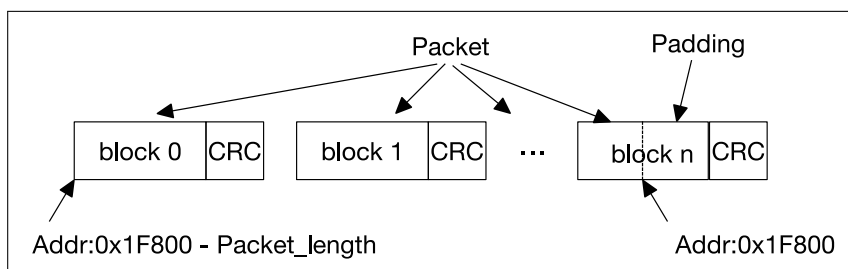

Figure 34.5-7. Data Flow of Sending Incremental-address Packets From Host to Slave
- For incremental-address packets, the slave determines valid data based on the address. The data with the address greater than or equal to 0x1F800 is considered as invalid data and will be discarded. Therefore, the host should set the CMD53 start address field to 0x1F800 – Packet_length (unit: byte). The data flow of incremental-address packets on SDIO bus is shown in Figure 34.5-7.